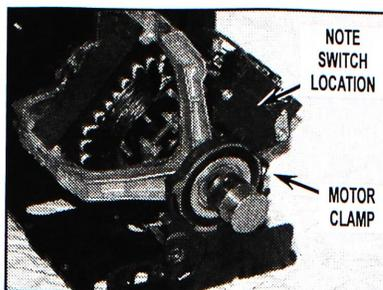

FIGURE 3
- Position motor as show in *Figure 3*. Align the tab of the motor to the slot of the motor bracket. Note the location of the motor switch (switch orientation may vary).